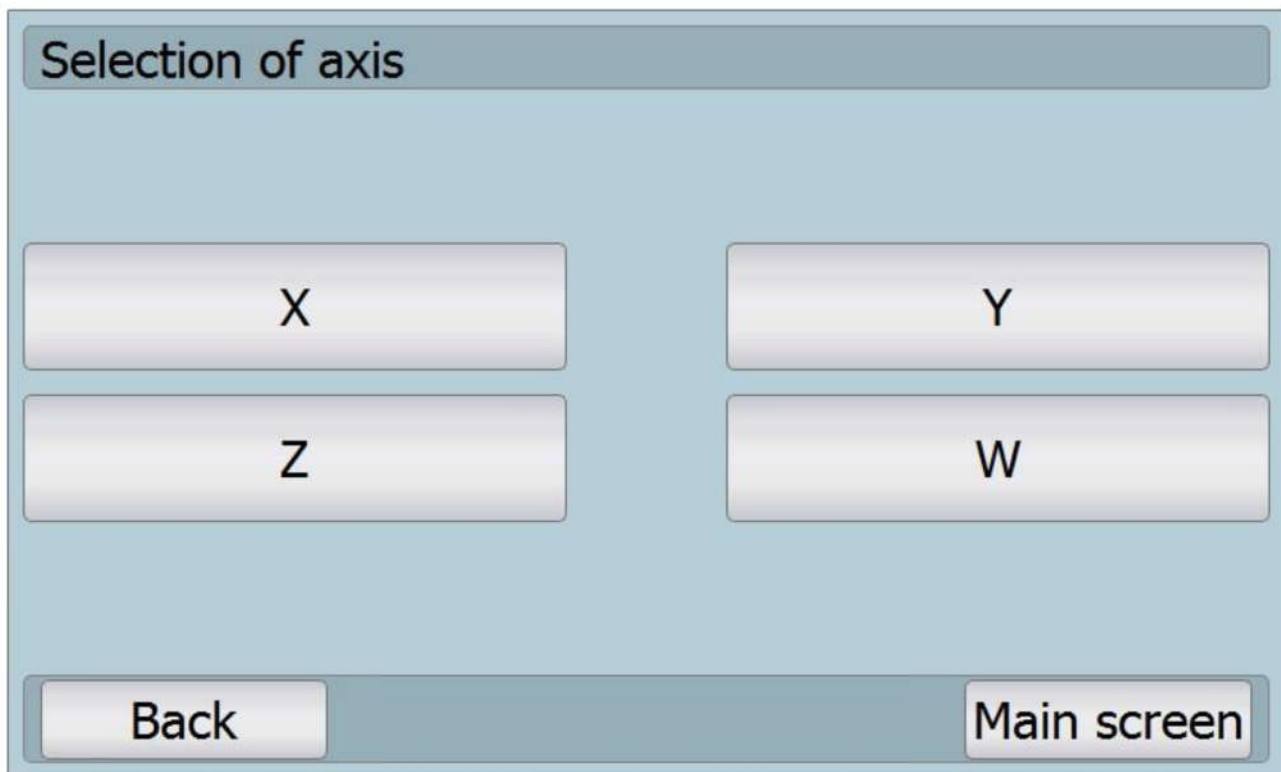

Fig. 30: Axis displayed – axis selection for the setting
- ⑩ It is used for setting the parameters for individual axes.
- ⑩ After pressing button „**Nastaveni os**“ (setting axes) the axis selection is displayed which requires the setting (see fig. 30: Axis displayed – axis selection for the setting).
- ⑩ After axis selection a setting for the selected axis displays.